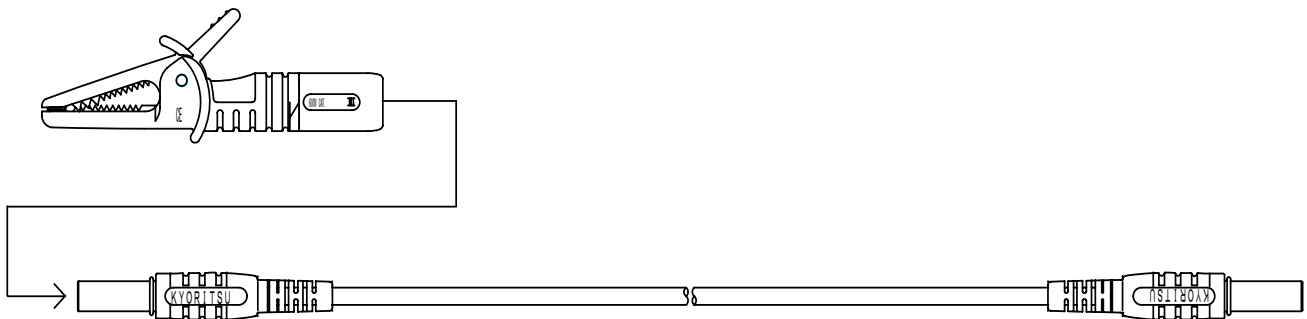

Fig.4
- (1) Unscrew and remove ① shown in Fig.4 and remove the Tip pin.
- (2) Install the Long pin and tighten ①.